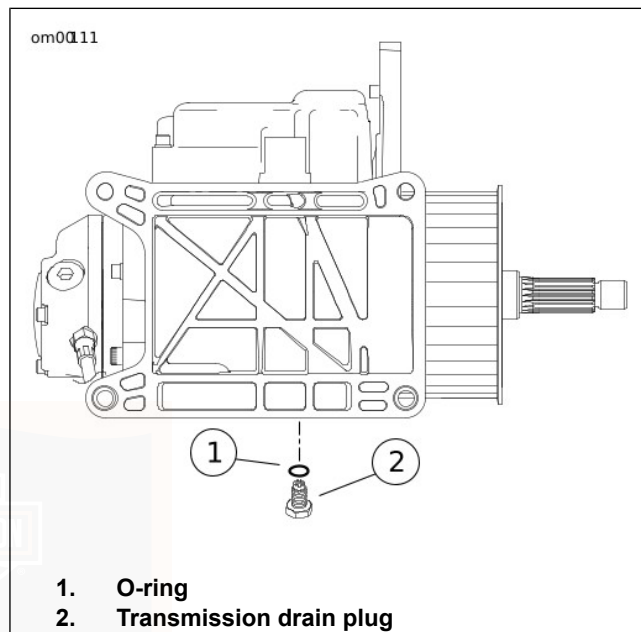

Figure 52. Transmission Drain Plug and O-ring
2. See Figure 52. Remove transmission drain plug and drain lubricant into a suitable container.